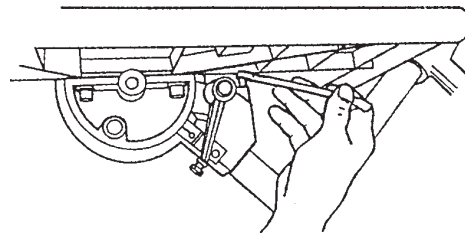

Figure B-71
39. Tighten the tilt lock, then use a 1/2" wrench to adjust the 45° stop on the front side of the worktable (shown in Figure B-71) and the back side of the worktable (shown in Figure B-72). The stops should just contact the underside of the table.